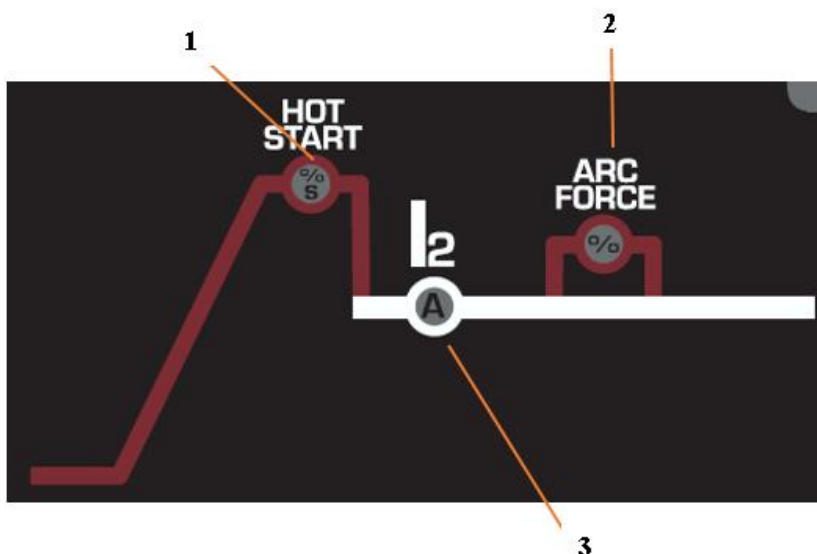

Fig. 1 – MMA parameters
- Adjust welding current (Fig.1 - 3),
- Hot Start (Fig.1 - 1) - To force arc ignition, adjust hot start percentage of main current and/or time (seconds).
- Arc Force (Fig.1 - 2) - To avoid electrode sticking during welding, adjust arc force current percentage of main current.
- Adjust welding current (Fig.1 - 3).